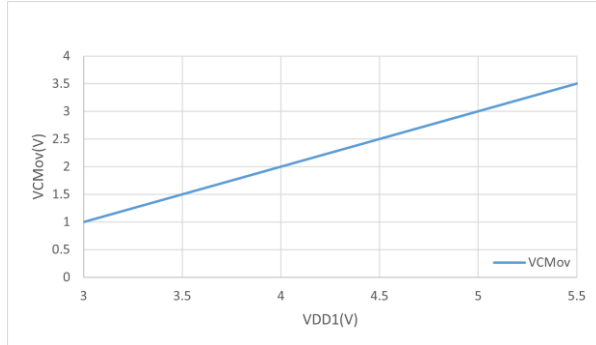

Figure 3. Common-Mode Overtolerance Detection Level vs High-Side Supply Voltage
Figure 3 depicts a typical operation of the Pai8302E(Q) for current sensing in a frequency inverter application. Phase current measurement is accomplished through the shunt resistors, R_{SHUNT} (in this case, a two-pin shunt). The differential input and the high common-mode transient immunity of the Pai8302E(Q) ensure reliable and accurate operation even in high-noise environments (such as the power stage of the motor drive).